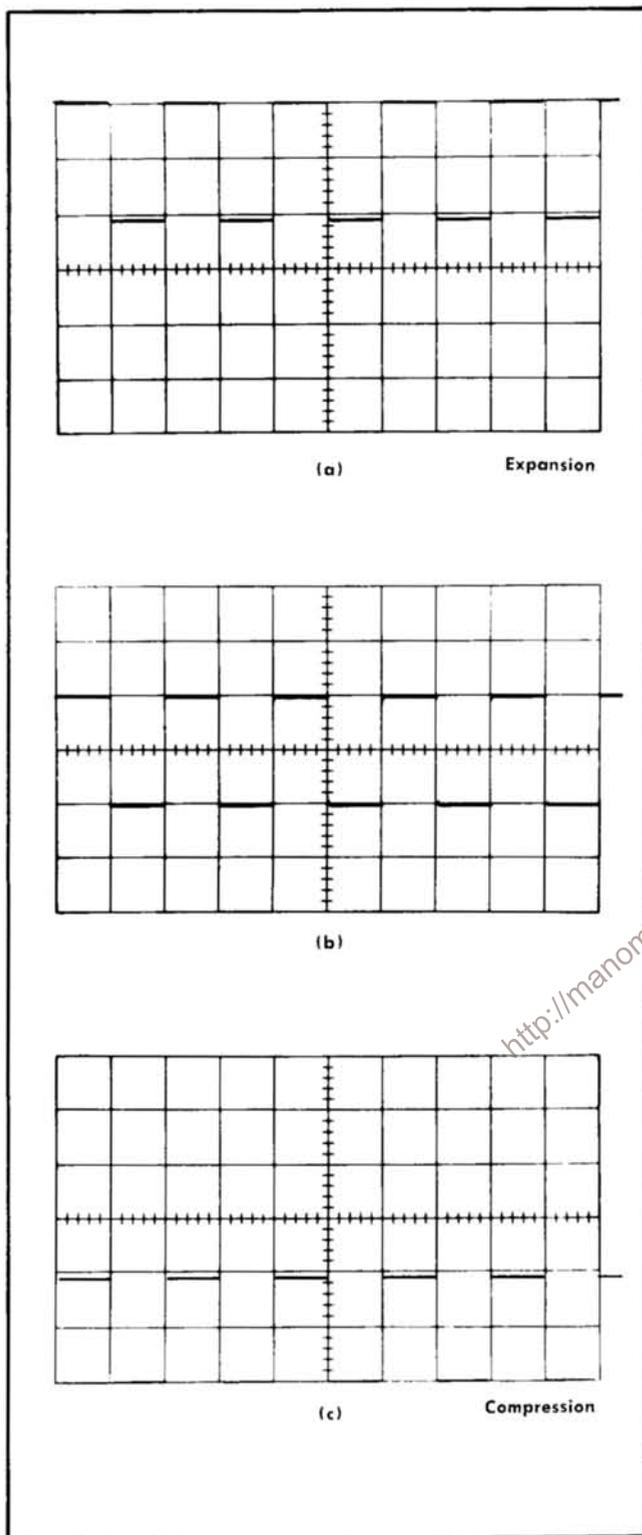

Fig. 6-23. Typical crt display showing acceptable compression and expansion. Waveform (a) shows expansion; waveform (c) shows compression.
- Check—Compression or expansion should not exceed 0.15 division (see Fig. 6-23).
- m. Check—Compression or expansion should not exceed 0.15 division (see Fig. 6-23).
- o. Check—Compression or expansion should not exceed 0.15 division (see Fig. 6-23).